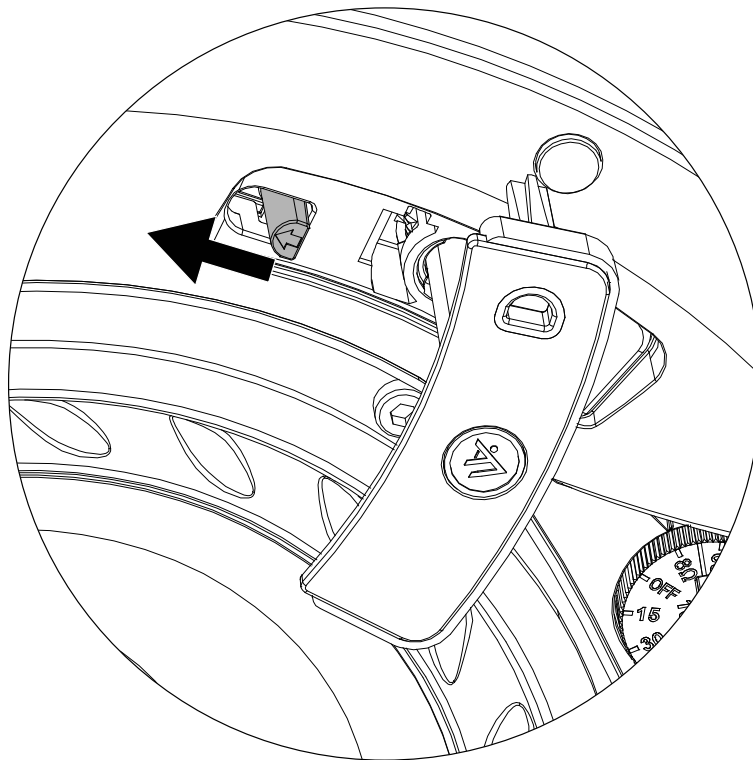

Figure 52
- b. Slide the clamp release button until you hear and feel the dogleg release (Figure 52).